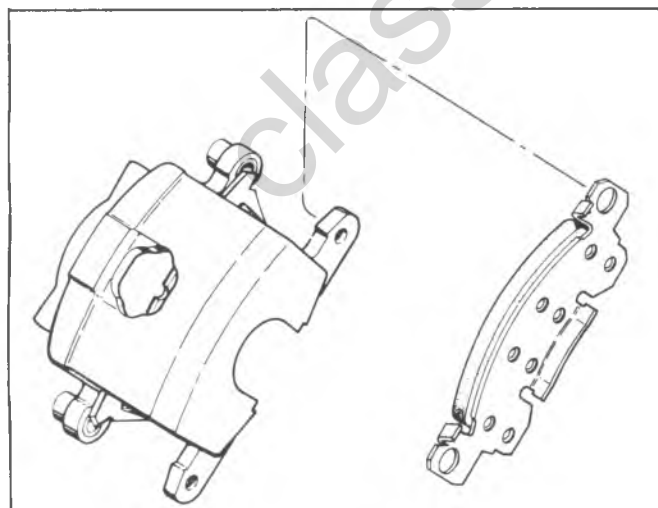

Fig. 5-28-Installing Outboard Shoe
5. Position the outboard shoe in the caliper, with the ears at the top of the shoe over the caliper ears and the tab at the bottom of the shoe engaged in the caliper cut-out (see fig. 5-28). Be sure to note right and left brake shoes.